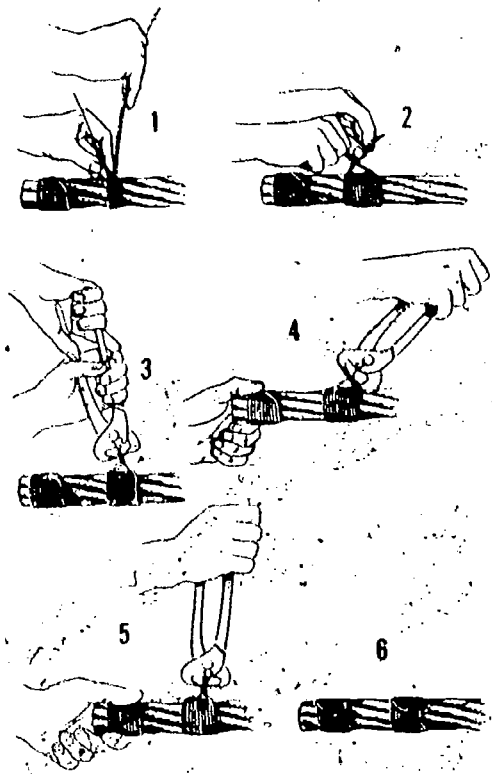

Fig 7-9. Seizing a wire rope.
a. Purpose of seizing. All wire rope, especially nonpreformed, must be seized at the ends (fig 7-9) to prevent the strands from unlaying. The material used for seizings is an annealed low-carbon wire called seizing wire. The recommended length and number of seizings and the correct distances between seizings are listed in figure 7-10.
b. Steps in seizing. To put a seizing on a wire rope, five steps are used (fig 7-9):